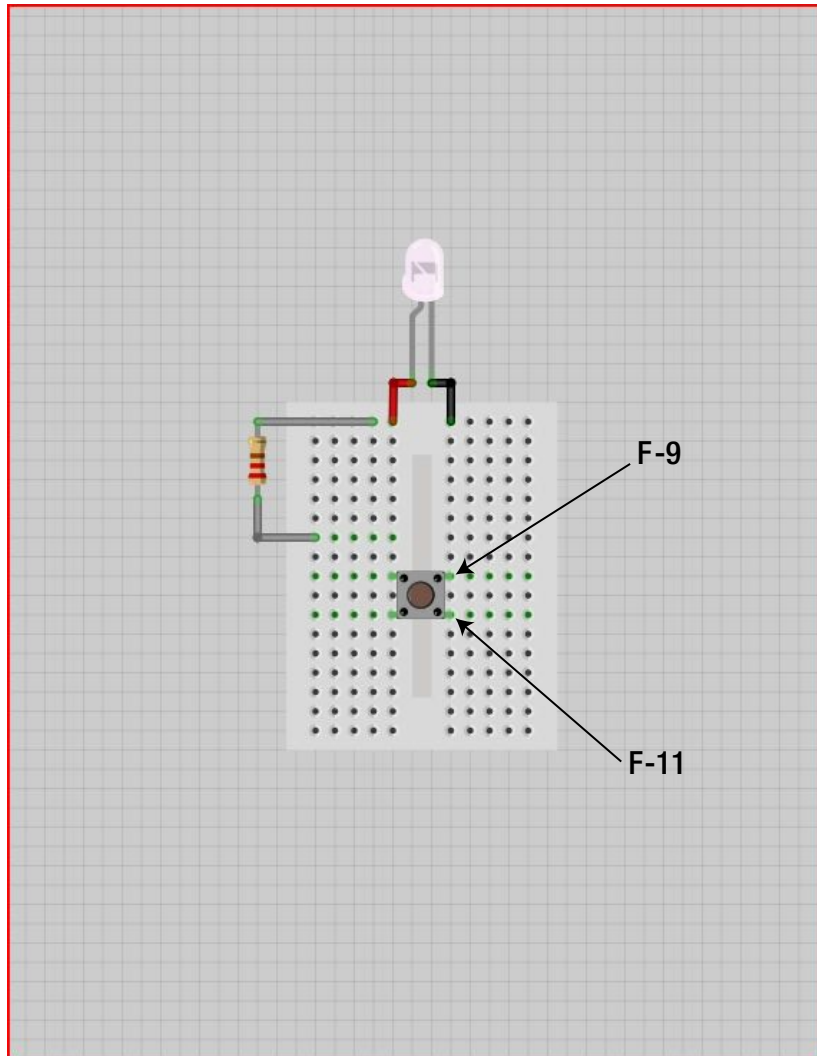

Figure 7-7. *Attach the push button to the solderless breadboard*
4. Attach the push button to the solderless breadboard. One set of pins will be inserted into E-9 and E-11. The other set of pins will be inserted into F-9 and F-11. Figure 7-7 illustrates this process.